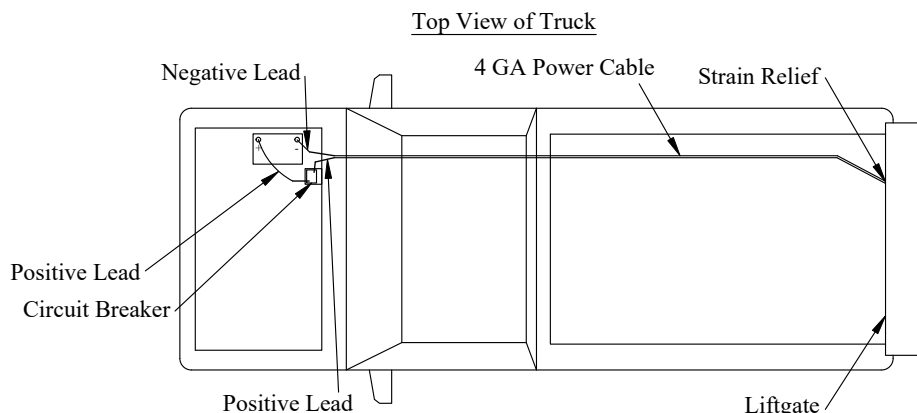

Figure 14: Electrical routing.
2. **Loosen** the strain relief on the back of the liftgate mainframe (Figure 14).
3. **Pull** the power cable (coiled up in the liftgate mainframe) carefully through the strain relief. Leave approximately two (2) inches of slack inside the liftgate mainframe (Figure 14).
5. **Route** the power cables along the frame (Figure 14) to the battery following the *Tommy Gate Recommended Electrical Wiring Guidelines*.